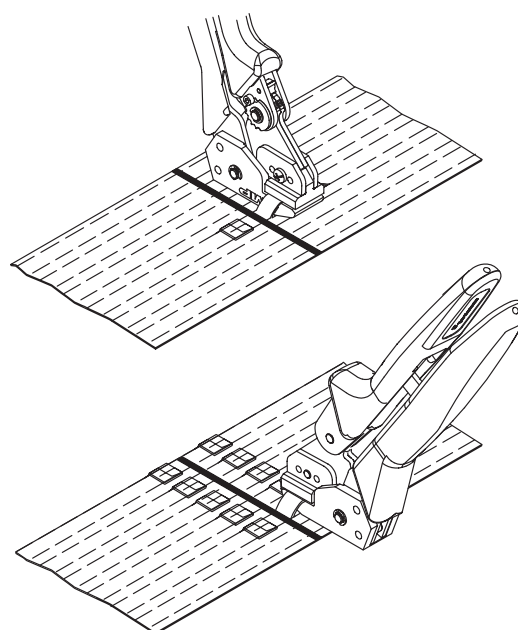

Figure 3
2. Hold the tool so that the flat side of the head is parallel with the floor. See Figure 3.
3. Gently lift the cable and straddle the tool jaws with between the conductor and the connector. Refer to Figure 3.